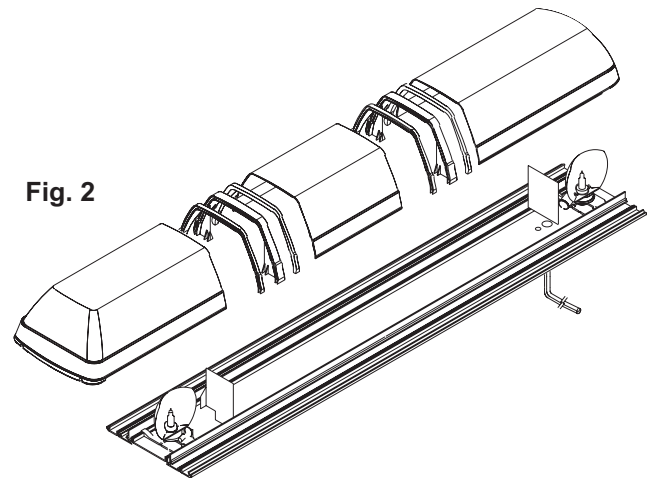

Fig. 2
2. Slide the lens sections off the end of the base and remove the dividers to gain access to the lightbar base (Fig. 2). Be sure to note the order in which the lenses were installed on the lightbar.